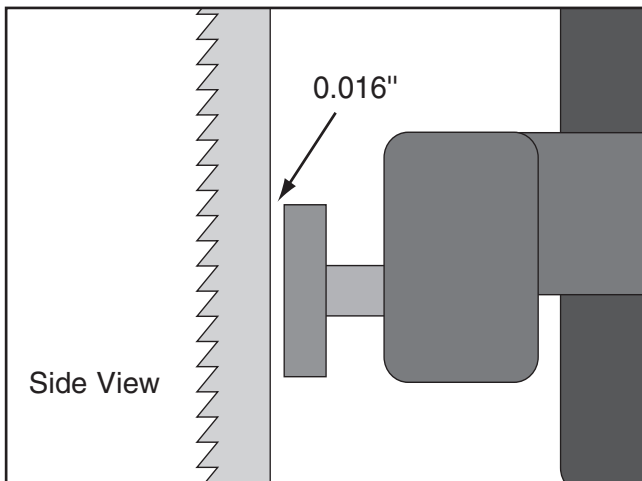

Figure 31. Blade should be aligned approximately 0.016" away from the bearing edge.
8. Place a 0.016" feeler gauge between the support bearing and the blade, and use the upper knurled knob to position the bearing 0.016" away from the back of the blade, as illustrated in **Figure 31**.